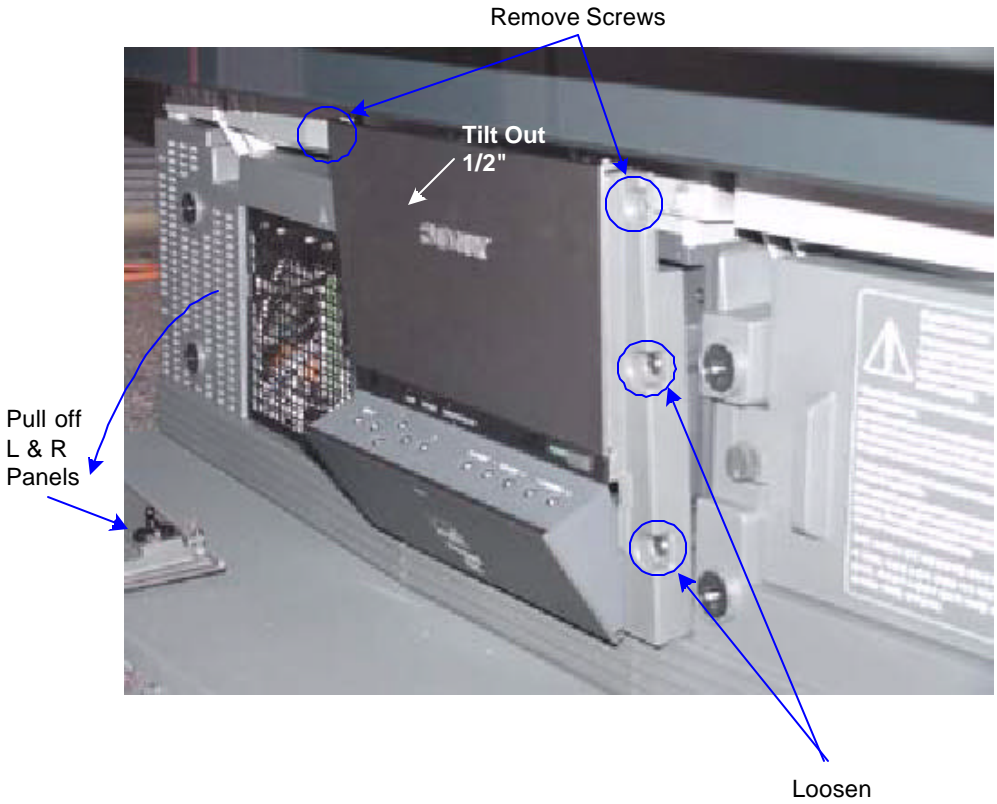

FIGURE 23-2 - PULL OFF THE FRONT SIDE PANELS & LOOSEN CONTROL PANEL
- d. Refer to Figure 23-2. From the front of the TV, pull the two side panels off to expose the control panel screws.
- e. Remove the top two screws of the control panel and loosen the remaining four by $\frac{1}{2}$ inch. Tilt the control panel forward as shown in Figure 23-2.